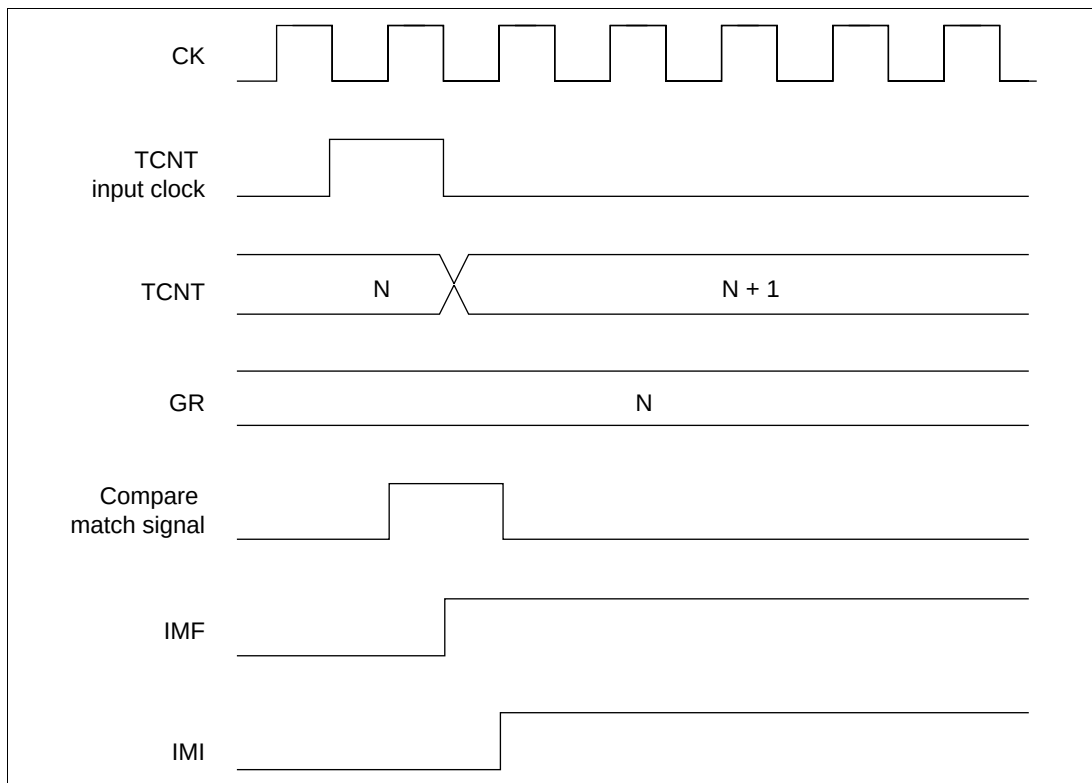

**Figure 10.54 Timing of Setting Compare Match Flags (IMFA, IMFB)**
**Timing for Setting IMFA and IMFB in a Compare Match:** The IMF bits in TSR are set to 1 by a compare match signal generated when TCNT matches a general register. The compare match signal is generated in the last state in which the values match (when TCNT is updated from the matching count to the next count). Therefore, when TCNT matches GRA or GRB, the compare match signal is not generated until the next timer clock input. Figure 10.54 shows the timing of setting the IMF bits.